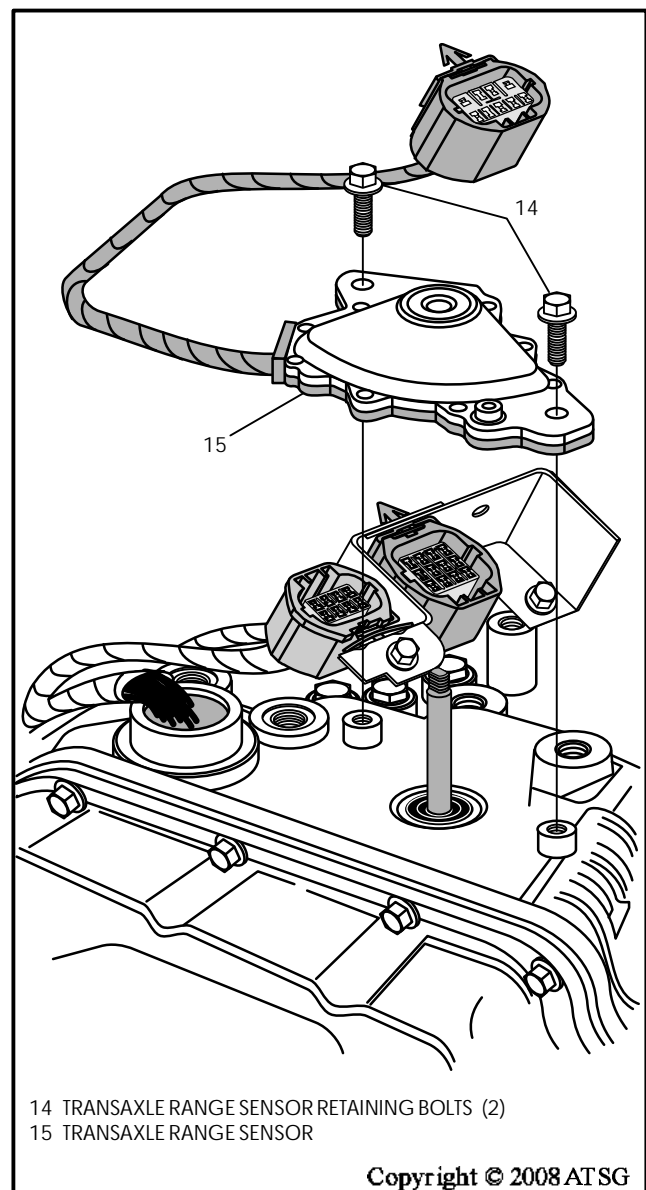

Figure 34
7. Remove the two transaxle range sensor bolts, as shown in Figure 34, and remove transaxle range sensor.